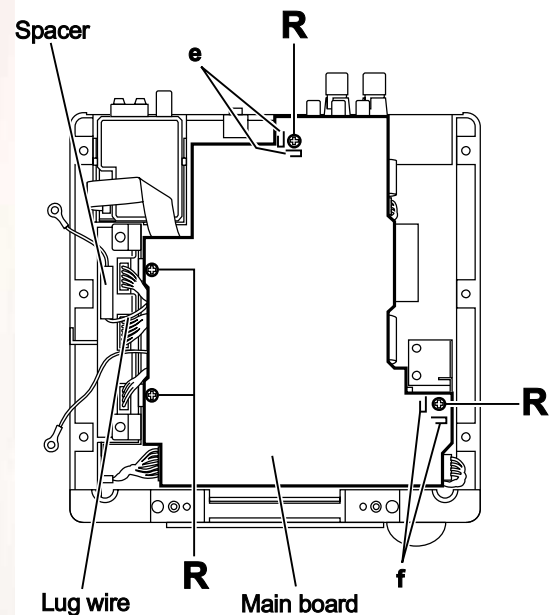

Fig.15
- Remove the spacer fixing the lug wire. (See Fig.15.)
- Remove the four screws **R** attaching the main board and remove the main board from the main body. (See Fig.15.)
When attaching the main board, attach the screws **R** after fitting the holes of the main board to the joints **e** and **f** of the main body. (See Fig.15.)